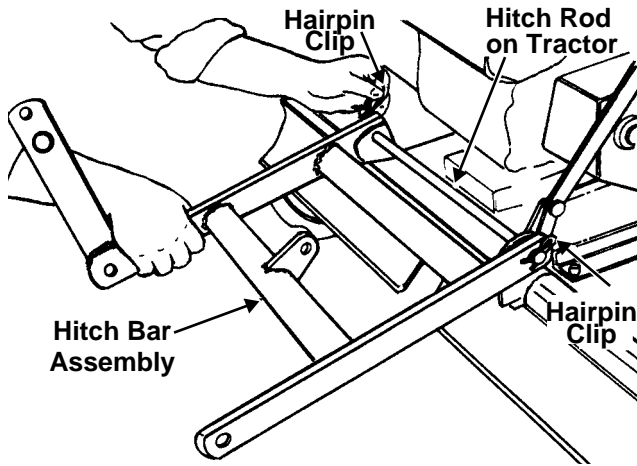

Figure 10
- Back the tractor up to the tiller and hook the hitch bar assembly to it. See Figure 10.
NOTE: Figure 10 is shown without the tractor for clarity.
- Remove one hairpin clip from hitch rod on tiller, line up hitch bar assembly and install hitch rod. Secure with hairpin clip. See Figure 10.